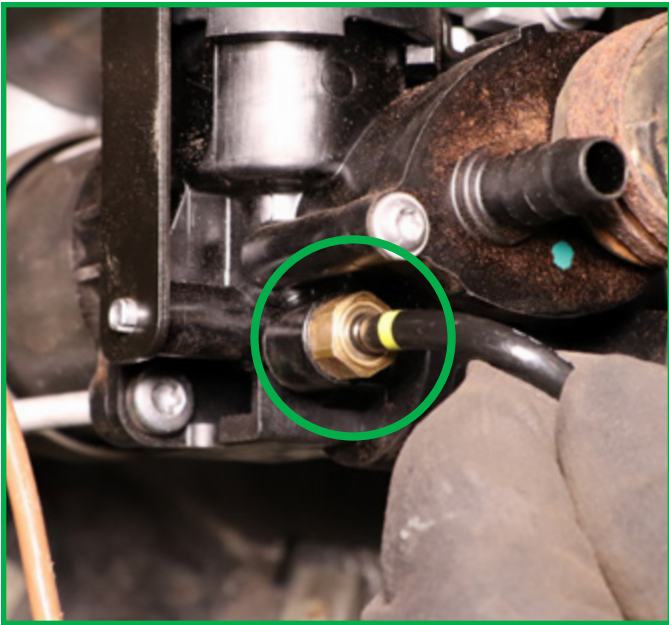

FIGURE 34
7. Connect the provided new air line from the valve block to the compressor. Press the line in firmly on both ends until it is firmly seated within the fitting. (Figures 34, 35)